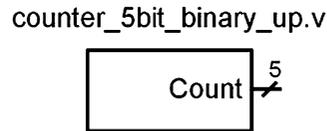

Fig. 5.7
5.2.11 Design a Verilog model for a counter using a for loop with an output type of reg[4:0]. Figure 5.7 shows the block diagram for the module definition. The counter should increment from 0000₂ to 1111₂ and then start over. Use delay in your loop to update the counter value every 10 ns. Consider using the loop variable of the for loop to generate an integer version of your count value, and then assign it to the output variable of type reg[4:0].